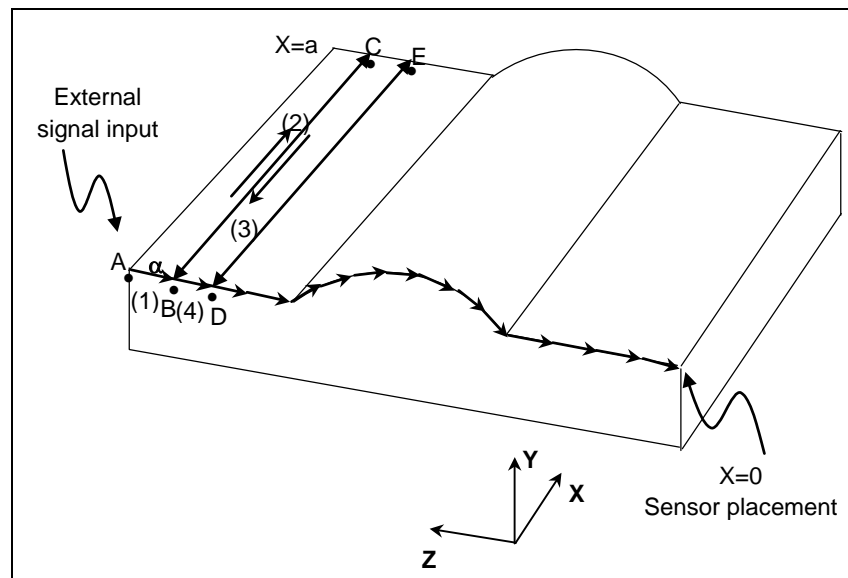

Fig. 5.5 (a)
For example, it is possible to machine a workpiece with a profile programmed with linear interpolation, circular interpolation, and linear interpolation on the YZ plane, such as that shown in the Fig. 5.5 (a).
Then, when the sensor detects the grinding wheel, the switch on the machine operator's panel is input, and the machine makes a cut by the constant amount α along the programmed profile on the specified YZ plane and moves to point B (operation (1)). The machine is then placed in the state in which it waits for the input of the switch on the machine operator's panel again, and performs a grinding operation along the X-axis. It grinds from point B to point C (operation (2)) and grinds back from point C to point B (operation (3)). When the machine returns to point B, the sensor detects the grinding wheel again, and the switch on the machine operator's panel is input, so that the machine makes a cut by the amount of α and moves to point D (operation (4)). At point D, the machine performs a grinding operation along the X-axis. Afterwards, each time the switch on the machine operator's panel is input, the machine makes a cut by the amount of α along the profile program, so that the workpiece is machined to a profile such as that shown in the Fig. 5.5 (a).